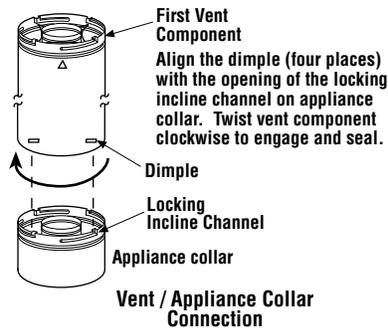

Figure 19
B. Attach vent components to appliance - Secure Vent SV4.5 direct vent system components are unitized concentric pipe components featuring positive twist lock connections (see **Figure 19**).
To attach a vent component to the appliance collar, align the dimpled end over the collar, adjusting the radial alignment until the four locking dimples are aligned with the inlet of the four inclined channels on the collar (refer to **Figure 19**). Push the vent component against the collar until it fully engages, then twist the component clockwise, running the dimples down and along the incline channels until they seat at the end of the channels.
Secure Vent SV4.5 direct vent system components are unitized concentric pipe components featuring positive twist lock connection, (refer to **Figure 19 on page 11**). All of the appliances covered in this document are fitted with collars having locking inclined channels. The dimpled end of the vent components fit over the appliance collar to create the positive twist lock connection.
Analyze the vent routing and determine the types and quantities of sections required 4 1/2" (114 mm), 10 1/2" (267 mm), 22 1/2" (572 mm), 34 1/2" (876 mm) and 46 1/2" (1181 mm) net section lengths are available. Make allowances for elbows as indicated in **Figure 19**.
D. Attach vent components to appliance - To attach a vent component to the appliance collar, align the dimpled end over the collar, adjusting the radial alignment until the four locking dimples are aligned with the inlets of the four incline channels on the collar (refer to **Figure 19 on page 11**).